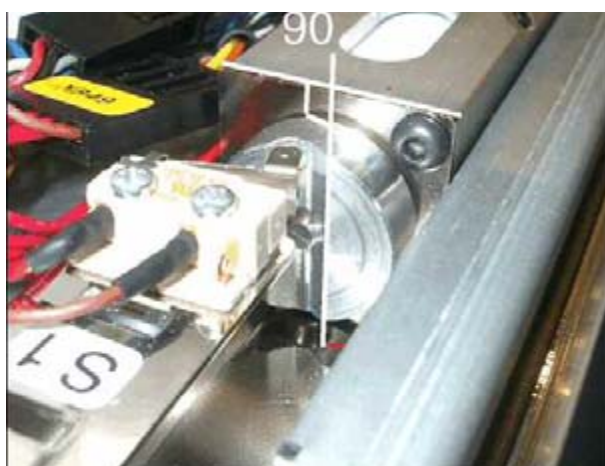

Fig. 28: Adjusting the grid motor wheel
2. Check if the slits are horizontal to the detector table (Fig. 28 / p. 52).
4. Check if the slits are horizontal to the detector table (Fig. 28 / p. 52).